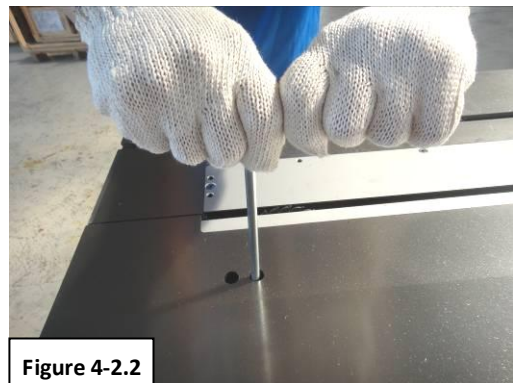

Figure 4-2.2
Insert the T-wrench as Fig.4-2.2 and turn it with 2 hands.
2. Tilt the motor unit 45° by turning the tilting wheel (Fig. 4-2.2).